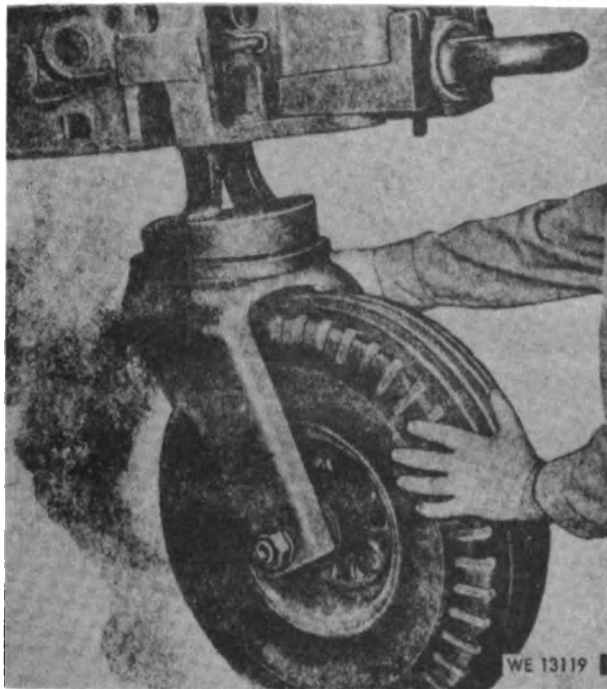

Figure 40. Installing or removing caster assembly.
- (1) Remove the spade key with thumb knob and eye bolt from the spade key bracket (fig. 2), and lay it on top and near the end of the left trail. Remove caster assembly from prime mover and position caster assembly so the lug (fig. 40) fits into the spade slot provided on the bottom of the left trail with the
- (3) Release the trail jack assembly from the strap on the left trail (fig. 30), swing it into position, and raise the trails until the caster assembly clears the ground (fig. 50). Release the knob and eye bolt and remove the spade key (fig. 41) and caster assembly (fig. 40) from the trail. Stow the caster assembly in the prime mover.